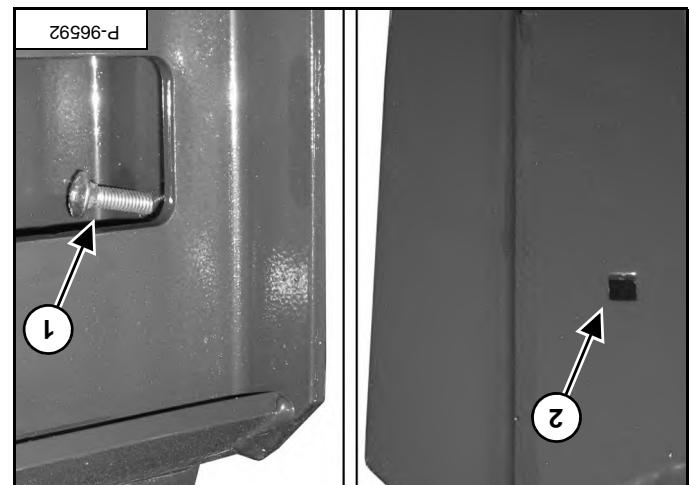

Figure 5
Install the carriage bolt (item 1) (from the inside) through the square opening (item 2) [Figure 5] on the left side of the auger mounting frame.